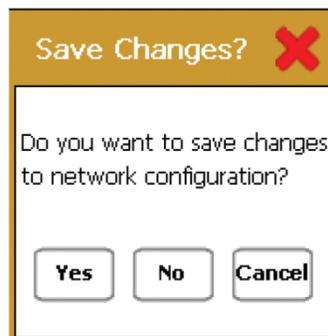

Figure 2-9 Save Changes
- Once all the addresses have been entered, tap **Exit** . A pop-up warning window (Figure 2-9) appears to confirm the numerical entries.